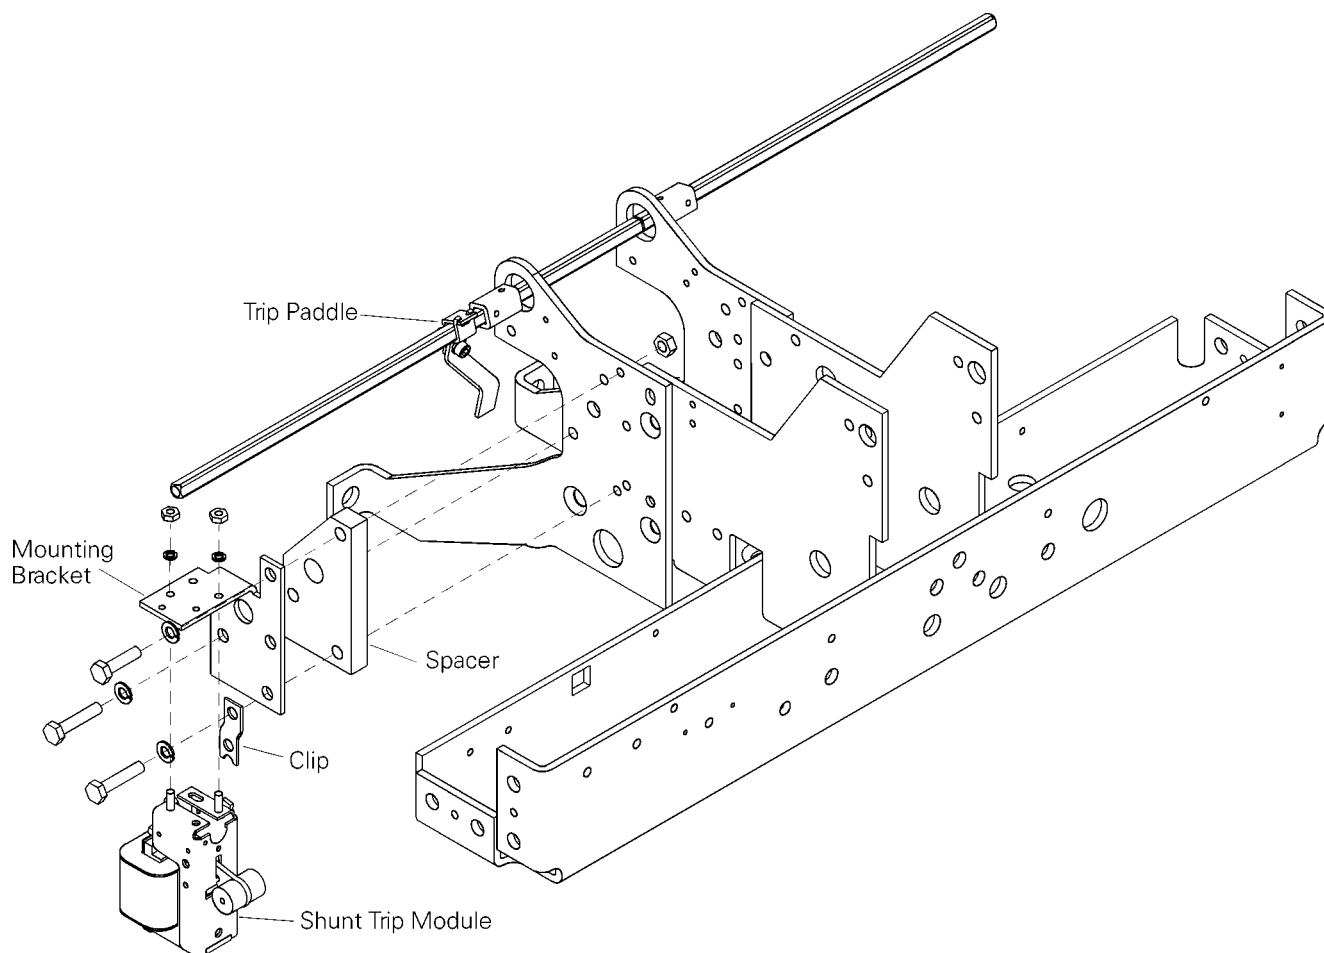
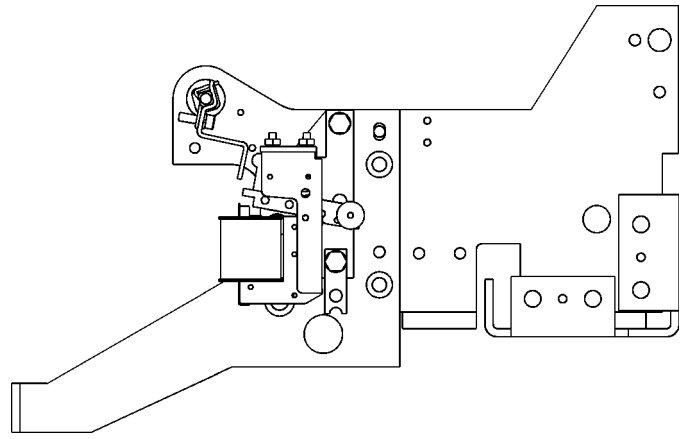

Figure 3. Installing the Shunt Trip on the left side of the breaker frame.
Figure 4. Side view of the Shunt Trip installed on the breaker.
3. Line up the mounting bracket and spacer with the three mounting holes in the breaker side frame, as illustrated in Figure 3. Insert the three screws and
5. Place the two parts of the trip paddle over the trip shaft and attach with the screw, as shown in Figure 3. The end of the paddle must line up with the Shunt Trip armature. Figure 4 shows the installed Shunt Trip in side view.